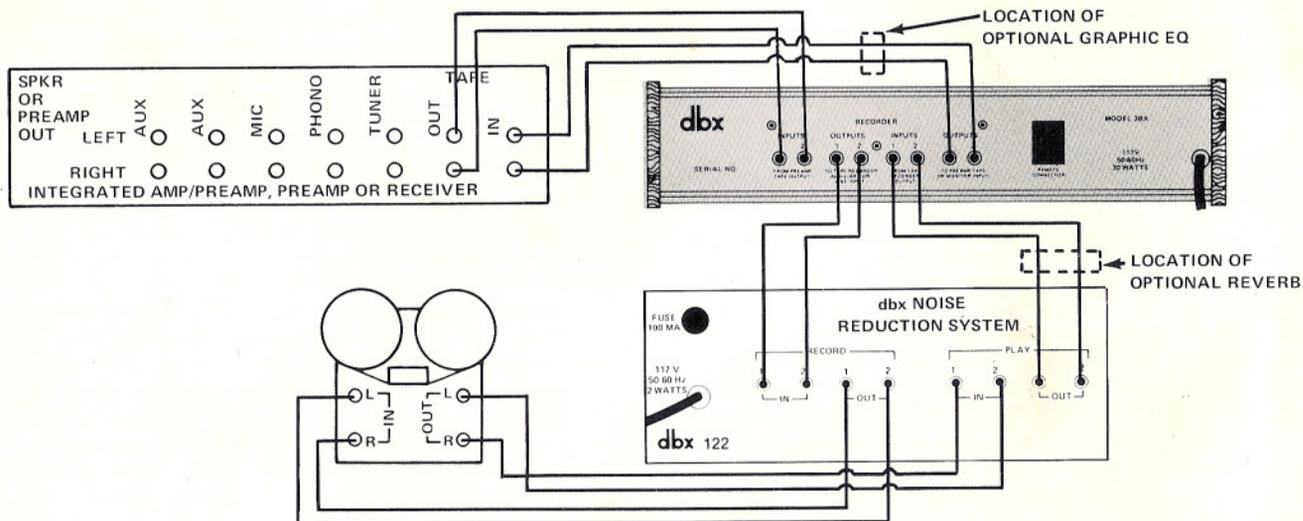

Fig. 12 – Combining the 3BX with a dbx Tape Noise Reduction System
1. Connect your system as shown in Figure 12.